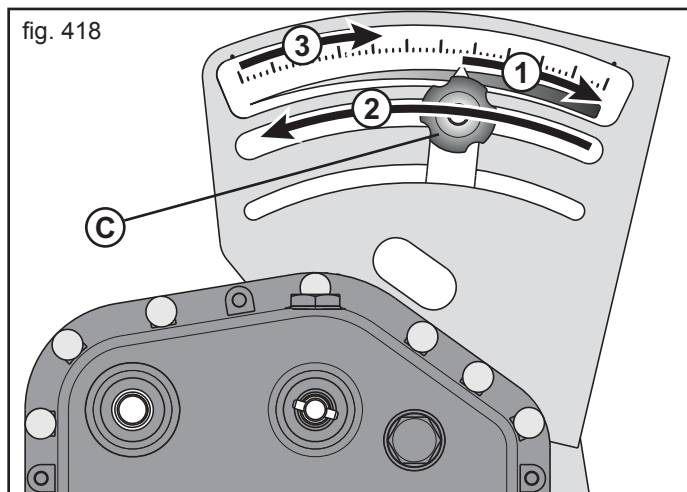

fig. 418
The speed of the fertilizer distributing units can be changed from the gearbox by moving the adjustment lever that is calibrated continuously on a scale from «0» to «50» (Fig. 418).
To set or change the gearbox pointer, loosen the knob (C, Fig. 418), put the lever at the bottom of the scale «50» (1), then put it on «0» (zero) (2) and then position it on the value found (3).
- Gear lever position according to the quantity to be distributed (Fig. 418);